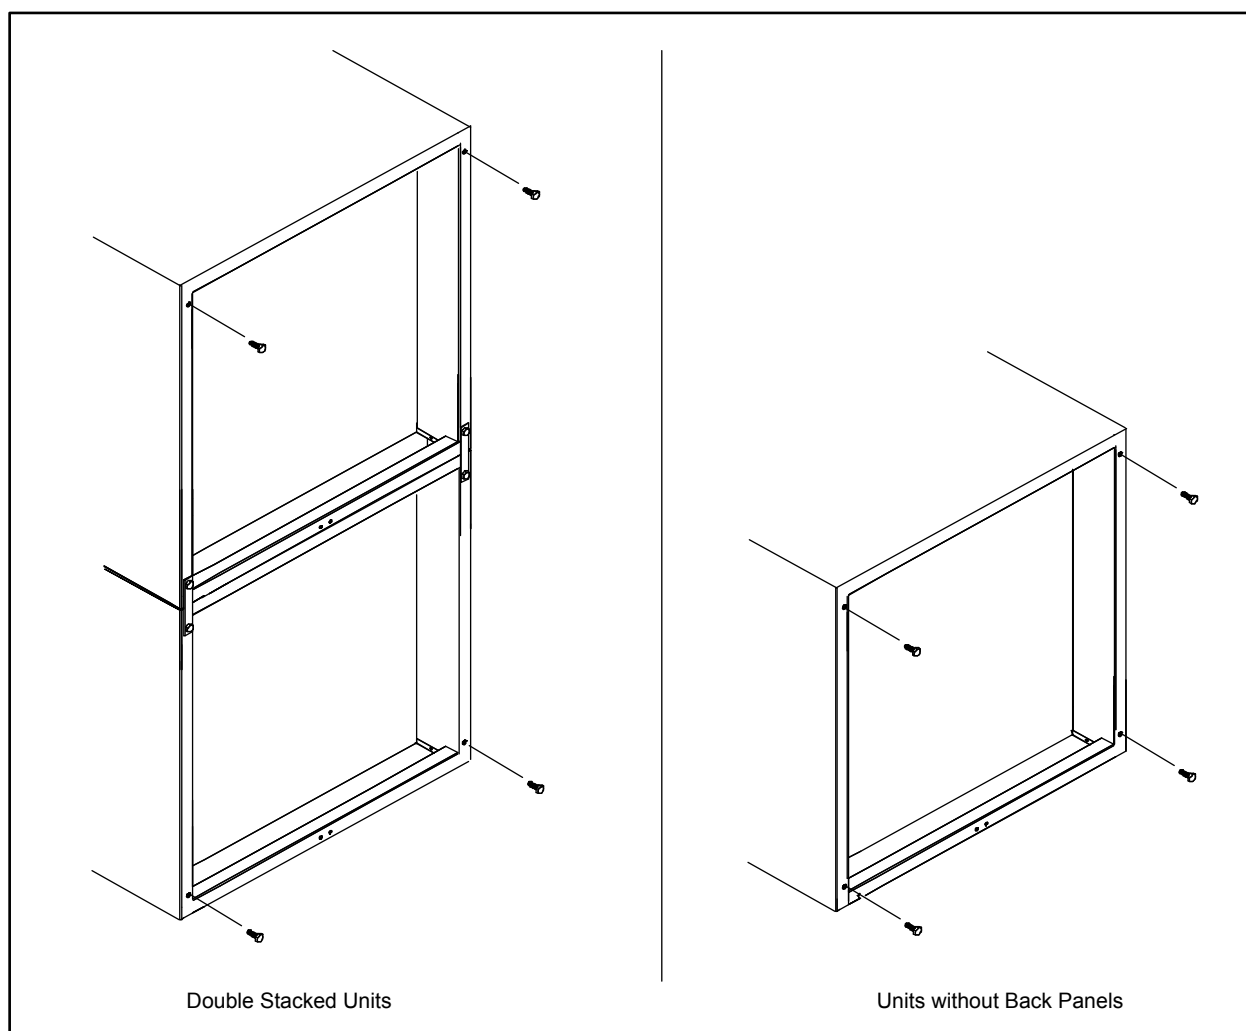

Figure 2
2. Install the bolts as shown in Figure 2.